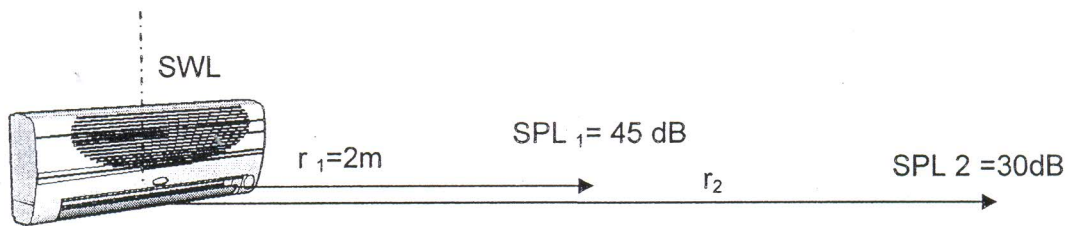

Figure Q2 (d): Sound pressure distance
- (c) State four (4) general characteristic of sound? (8 marks)
- (d) Referring to figure Q2(d), given that, sound pressure level ( $SPL_1$ ) is 45 dB, Sound pressure level ( $SPL_2$ ) is 30 dB and radius ( $r_1$ ) at 2m calculate :